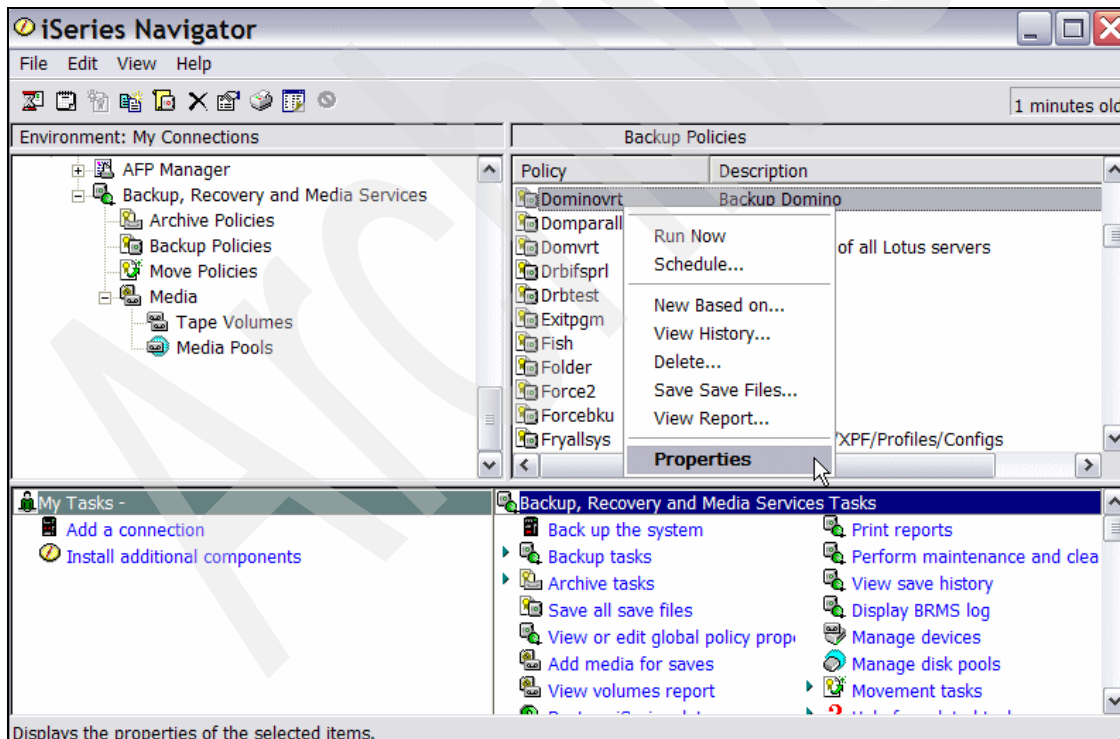

Figure 5-56 BRMS move policy change, select properties
2. Select **Backup, Recovery and Media Services**, right-click **Dominovrt** and select **Properties**, as shown in Figure 5-56.